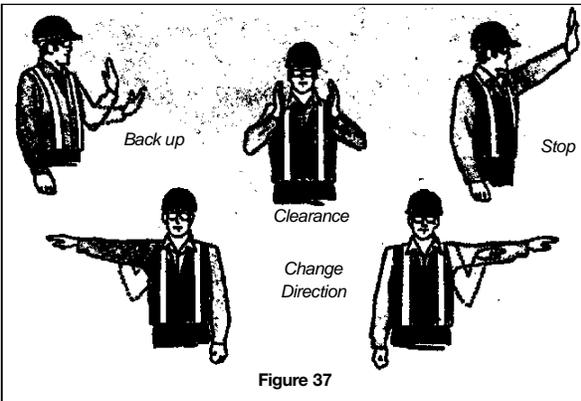

Figure 37
- Use standard hand signals (Figure 37).